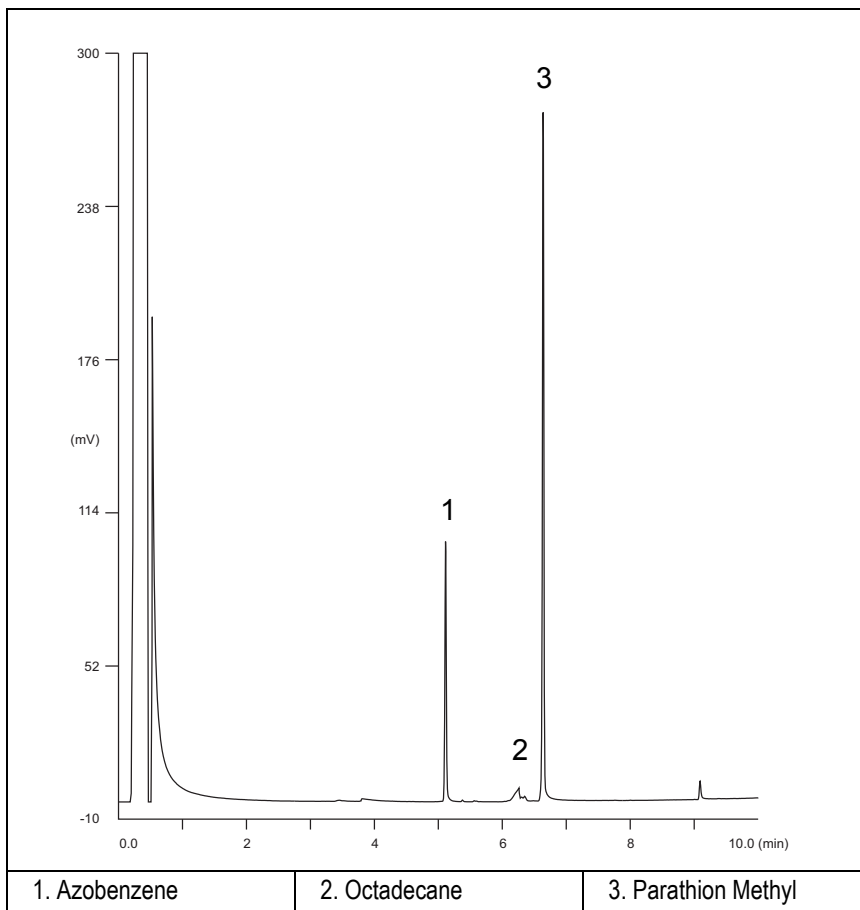

Figure 15-1. NPD-PPKD Injection
13. Inject the test mixture and press **START** on the GC to begin the checkout run. The resulting chromatogram should look like the one shown in *Figure 15.1*.